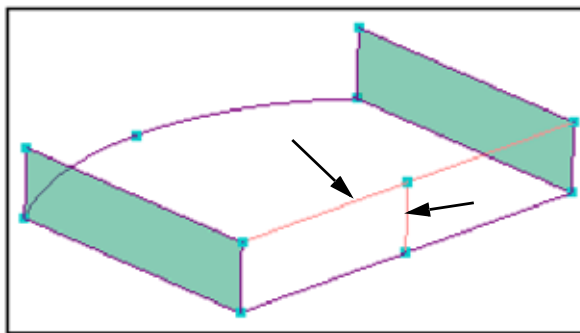

Figure 58: Curves to break
- 4.3. **Select** the top line at the back of the pan, as shown in Figure 58.